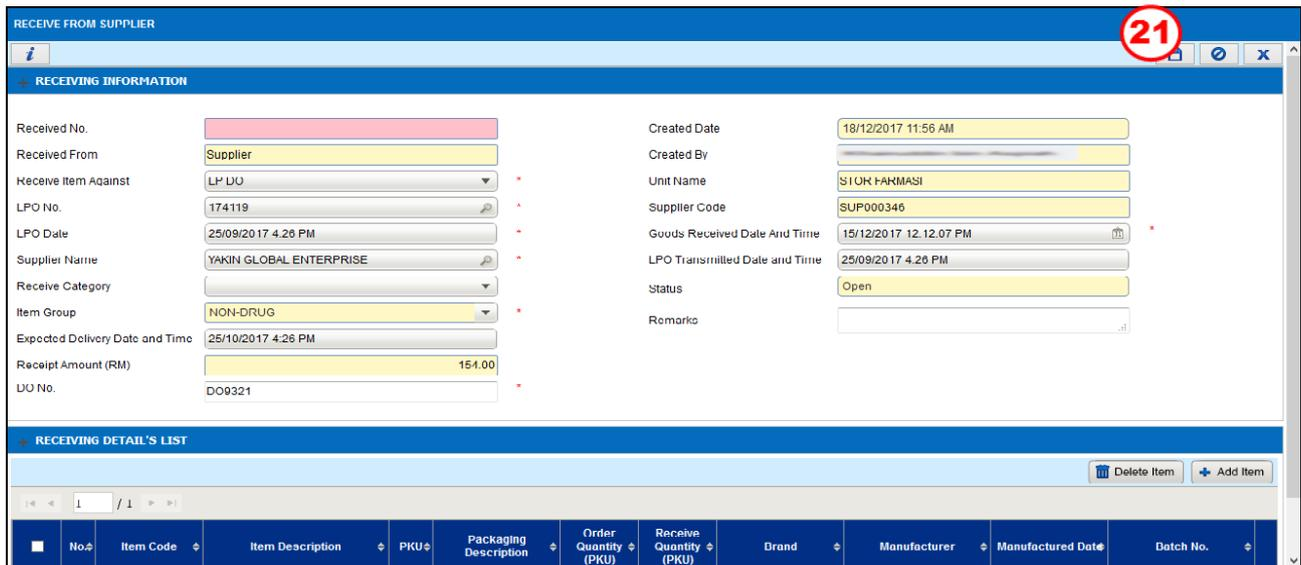

Figure 4.1.6-9 Save Receive from Supplier record
- System will display an alert message as displayed in Figure 4.1.6-10.